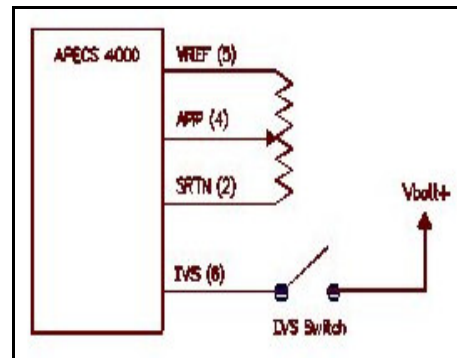

Figure 11. Analog Input Switch with IVS
If use of an idle verification switch (IVS) is desired, hook up Pin (6) from the controller to the idle verification switch on the pedal. (Refer to the manufacturer's instructions or OEM manual.) The other side of the switch should be connected to battery voltage (see Figure 11).